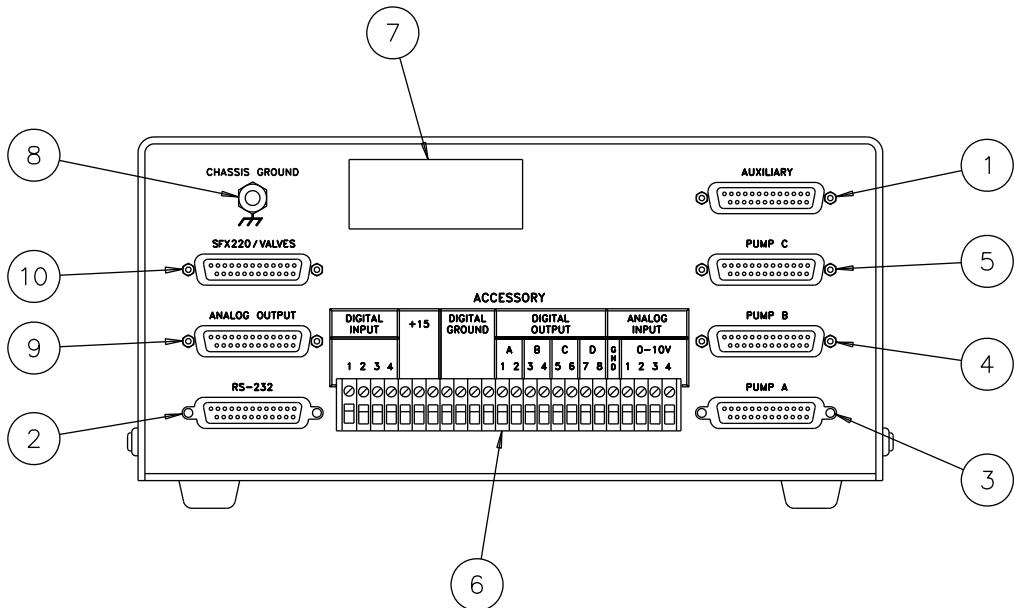

Figure 1-5 Pump controller rear panel connectors
The rear panel of the pump controller contains several input and output connectors, explained in Table 1-10, and shown in Figure 1-5.
2. Connect the control cable (which originates from the first or only pump rear panel) to the PUMP A connector on the rear panel of the controller (Figure 1-5), and tighten the thumbscrews. This cable must be plugged into the PUMP A connector.